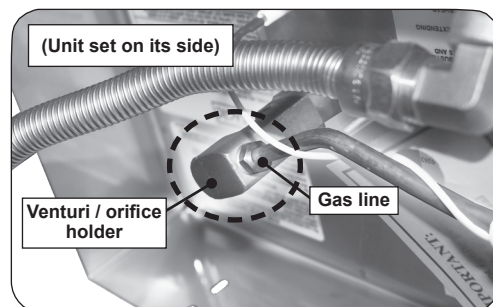

Fig. 31-2 Venturi / orifice holder
5. Detach the gas line from the venturi/orifice holder to fully remove (see Fig. 31-2).